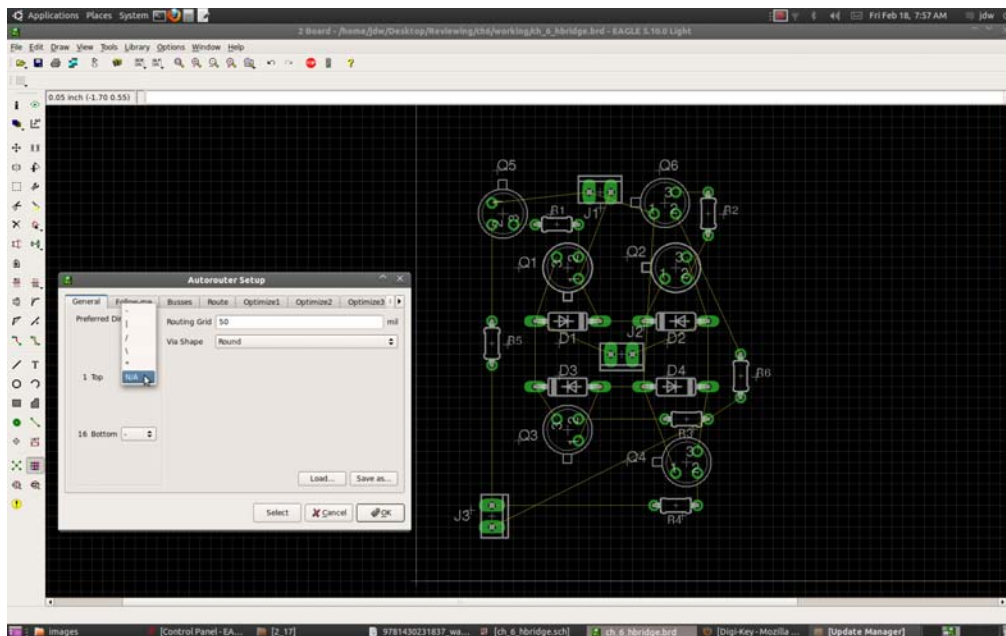

Figure 6-9. With each component placed on the board, you can start routing wire traces to replace the virtual wires (shown in yellow).
3. *Arrange parts on board editor:* The arrangement in Figure 6-9 won't allow crossing wires when we route the traces. It helps to turn on the spacing grid in the board editor so you can make sure everything is aligned properly because this will be the way your PCB looks when it is finished. To enable, go to View Grid Display from the board editor and select the On box. The grid size should be 0.05 inch by default. The component outlines are accurately sized with the real components that you will place on the board, so make sure your component outlines are not overlapping in the layout, because they will also overlap when you try to assemble your board.